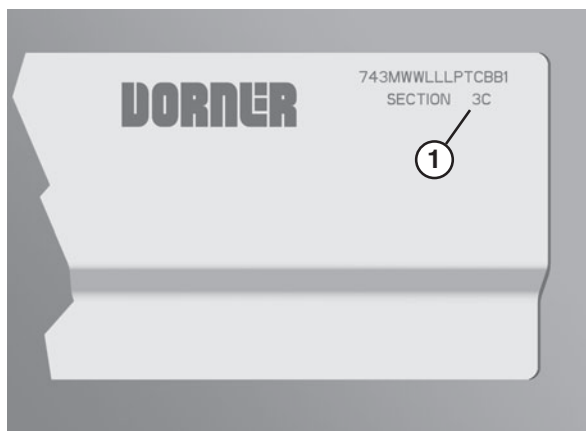

Figure 38
1. Locate the section number sequence etched on each section of frame (Figure 38, item 1)